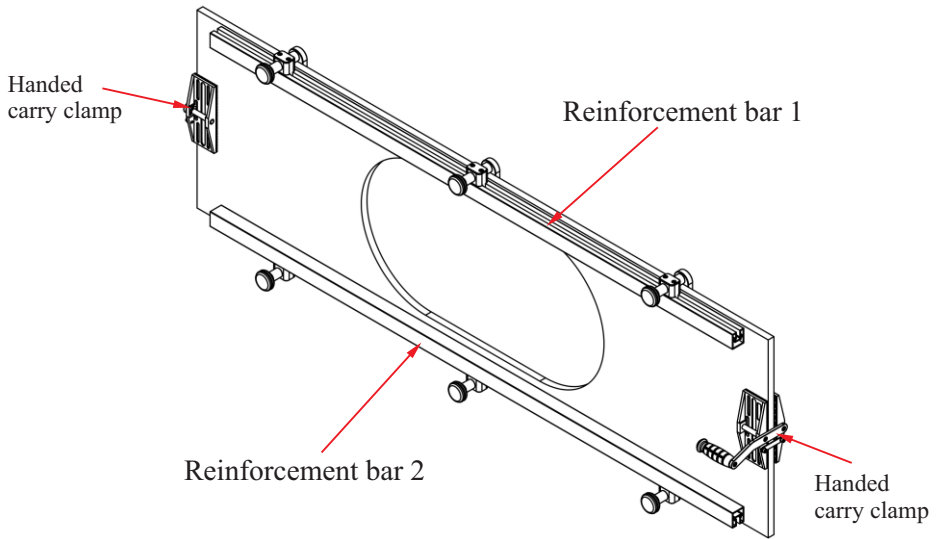

Figure 3.1
- When transporting stone slabs, clamp them at both edges that are prone to cracking and use appropriate stone handling tools (Figure 3.1).